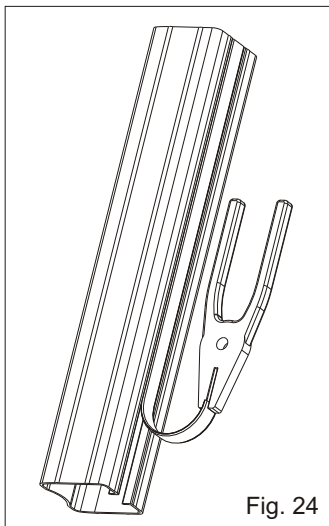

Fig. 24
**2.10.** Remove the pull tongue from the shaft-cover (Fig 24) and mount it on the operator through the two tie-rods without excessively tightening the two cover-nuts (Fig 25).